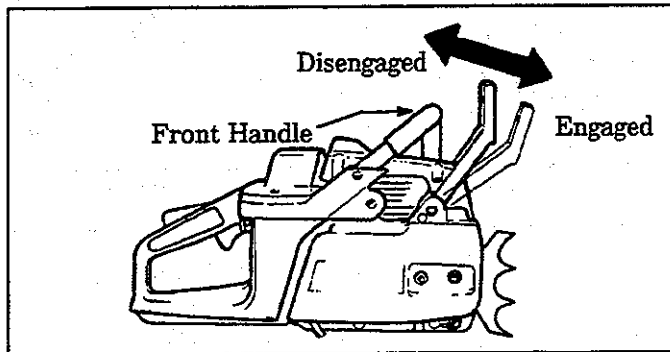

Figure 15
- The inertia activated chain brake is activated if the front hand guard is pushed forward, either manually or by centrifugal force. Figure 15.
- If the brake is already activated, it is disengaged by pulling the front hand guard back until it touches the front handle. Figure 15.